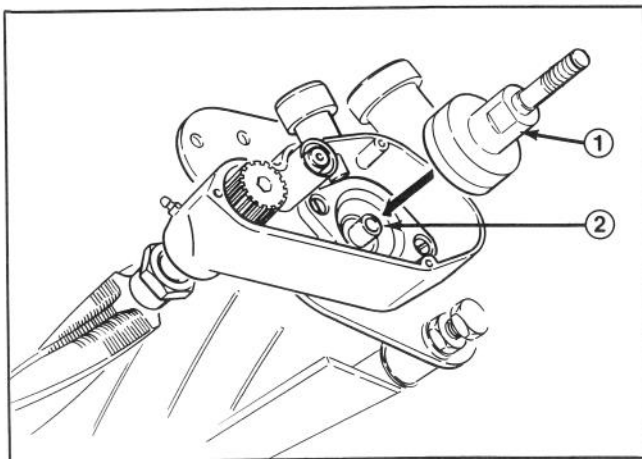

Figure 14
3. Allen head set screws (2)
- B. Remove the clutch adapter shaft from the clutch assembly and thread it into the left reel shaft extension (Fig. 14). Secure the reel from turning with a block of wood and torque the clutch adapter to 17 ft-lb.